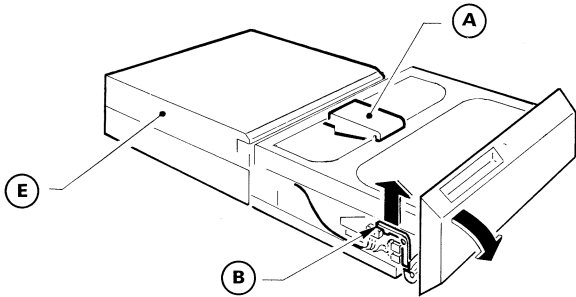

Figure 2.1.a
- Remove part A (Figure 2.1.a)